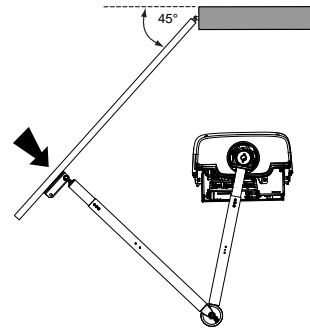

Figure 24. Test the Taper Clamp
2. Manually swing the gate halfway between the open and close position, at least 45 degrees from close position. (Figure 24)